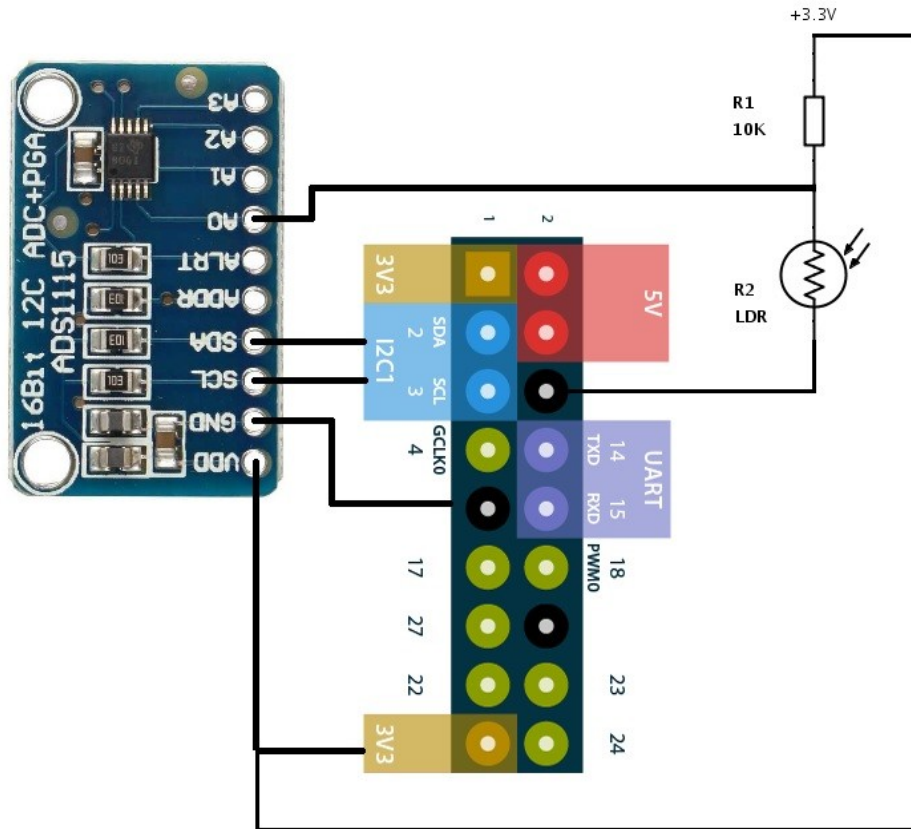

Fig.2. Wiring Layout for ADC, LDR, and Raspberry Pi
Step 2: Now it is time to wire the breadboard to the Raspberry Pi. Insert a male jumper wire into the hole between the photocell resistor and the 10k Ω resistor and connect it to the A0 pin on the ADS1115 sensor. Next, insert a male jumper wire into the same row as the top pin of the photocell and connect it to a pin on the Raspberry Pi with 5V of power. Finally, insert a male jumper wire into the same row as the bottom pin of the 10k Ω resistor and connect it to a ground pin on the Raspberry Pi as in Fig. 2.